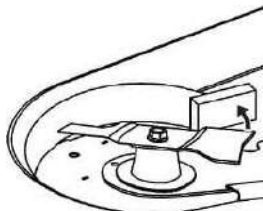

Figure 4-22
1. Secure the blade from turning counter-clockwise during service by placing a block of wood between the blade and the deck housing, see Figure 4-22, or wrap a rag around one end of the blade and wear heavy gloves to grasp the blade firmly.